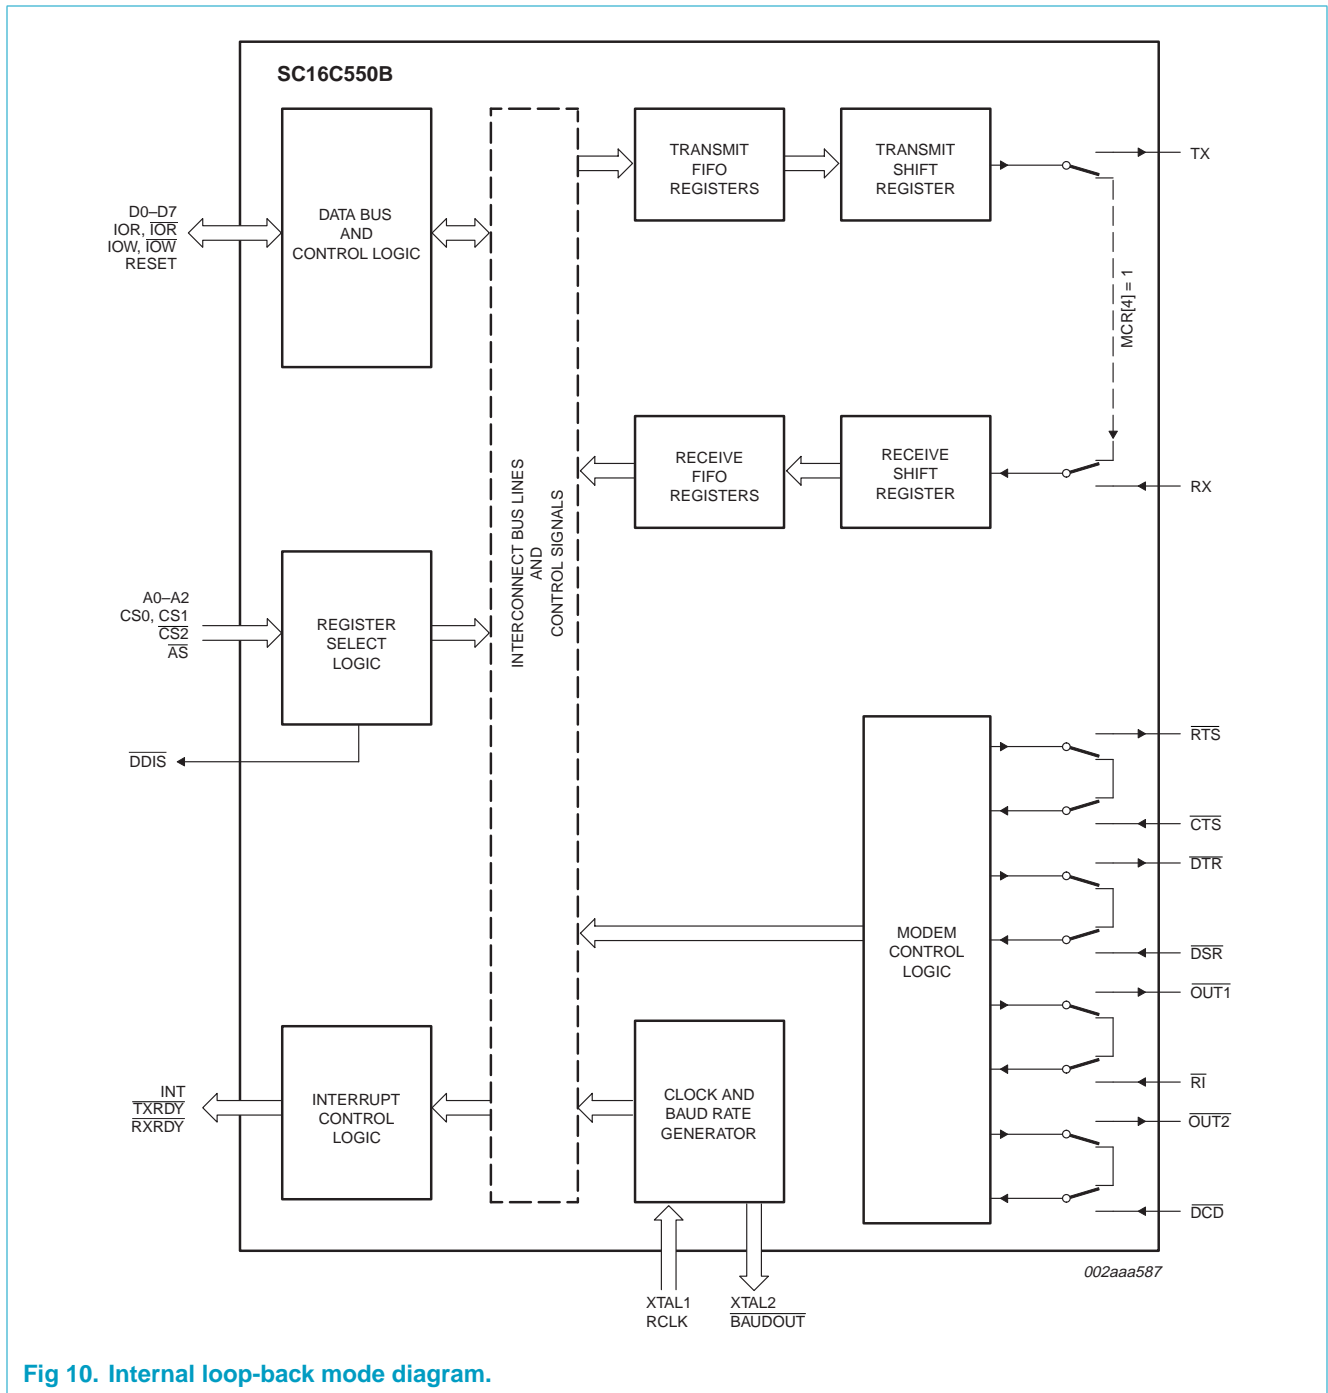

Fig 10. Internal loop-back mode diagram.
The internal loop-back capability allows on-board diagnostics. In the loop-back mode, the normal modem interface pins are disconnected and reconfigured for loop-back internally. MCR[0:3] register bits are used for controlling loop-back diagnostic testing. In the loop-back mode, OUT1 and OUT2 in the MCR register (bits 3-2) control the modem \overline{RI} and \overline{DCD} inputs, respectively. MCR signals DTR and RTS (bits 0-1) are used to control the modem \overline{CTS} and \overline{DSR} inputs, respectively. The transmitter output (TX) and the receiver input (RX) are disconnected from their associated interface pins, and instead are connected together internally (see Figure 10). The \overline{CTS} , \overline{DSR} , \overline{DCD} , and \overline{RI} are disconnected from their normal modem control input pins, and instead are connected internally to \overline{DTR} , \overline{RTS} , $\overline{OUT1}$ and $\overline{OUT2}$. Loop-back test data is entered into the transmit holding register via the user data bus interface, D0-D7. The transmit UART serializes the data and passes the serial data to the receive UART via the internal loop-back connection. The receive UART converts the serial data back into parallel data that is then made available at the user data interface D0-D7. The user optionally compares the received data to the initial transmitted data for verifying error-free operation of the UART TX/RX circuits.